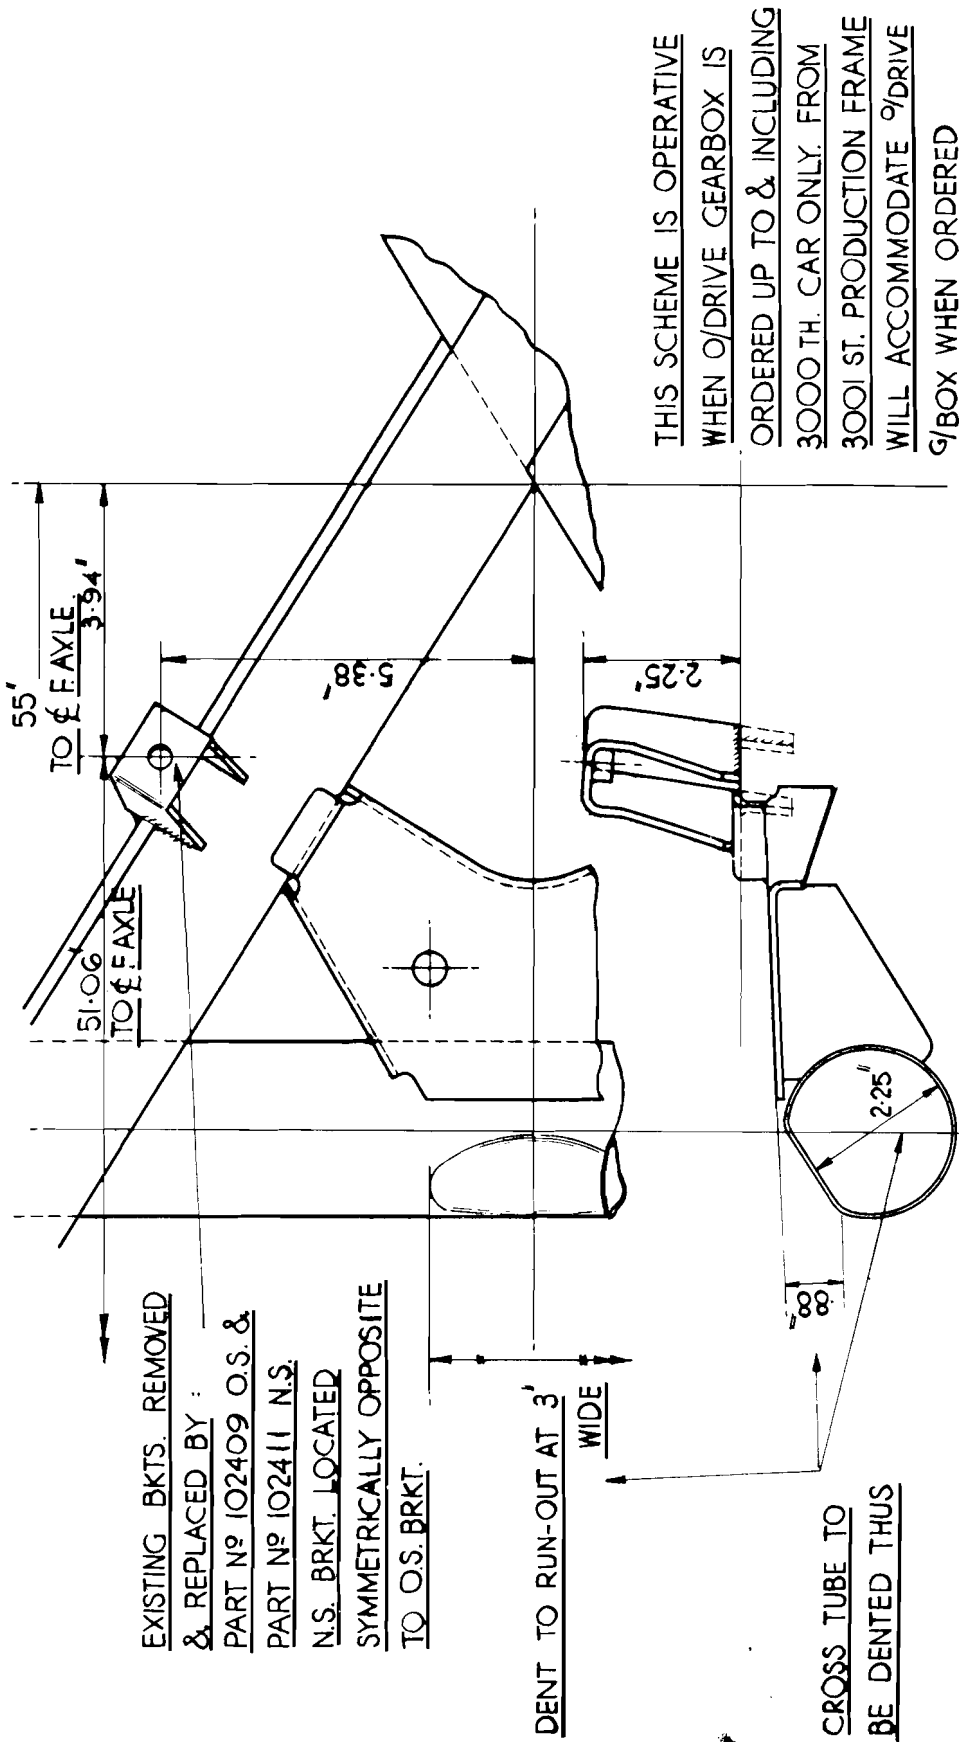

Fig. 18. Showing alteration which may be required on "Renown" chassis.
2. The cross member must be modified as indicated in Fig. 18 and the floor board brackets changed and re-located as shown in this illustration. These alterations have now been introduced in normal production.